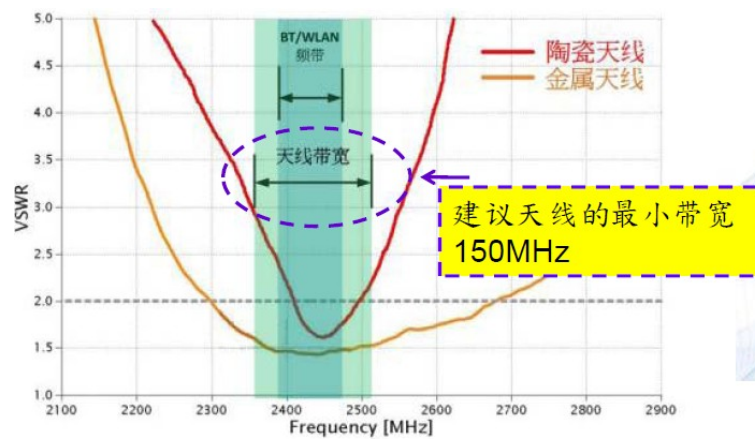

Figure 2-3 Antenna bandwidth selection
2. Use a metal antenna or PCB antenna with good bandwidth and efficiency. The antenna bandwidth is recommended to be greater than 150MHz to cover and exceed the operating frequency band of BT/WLAN, as shown in Figure 2-3.